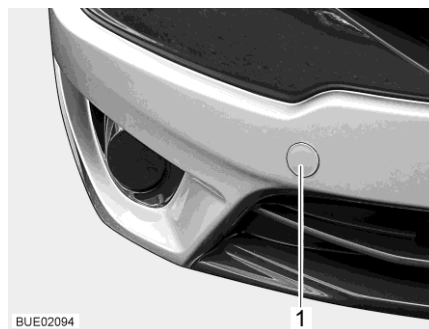

Fig. 48 Cover for the towing eye holder (example)
- Remove the cover (Fig. 48,1).